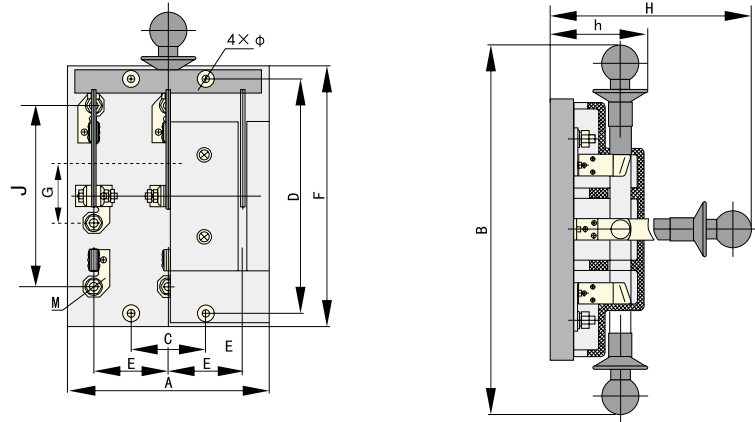

Fig. 2
5.2 HS11 wiring before the plate (see Fig. 2 and Table 3)